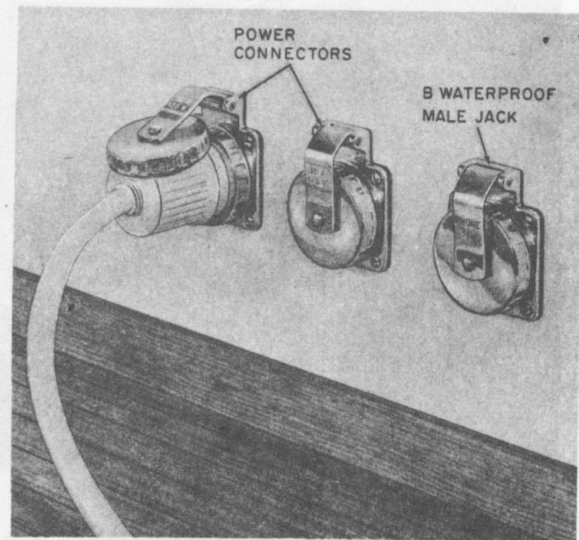

Fig. 18—B Waterproof Male Jack Mounted on Boat—Typical
3.08 The owner of the boat should be given the B template to drill the mounting and clearance holes for the B waterproof male jack adjacent to the power plugs in the cockpit coaming or in the outer hull of the boat (see Fig. 18 through 21). The installer should not drill any holes on boats either for mounting or running wire.